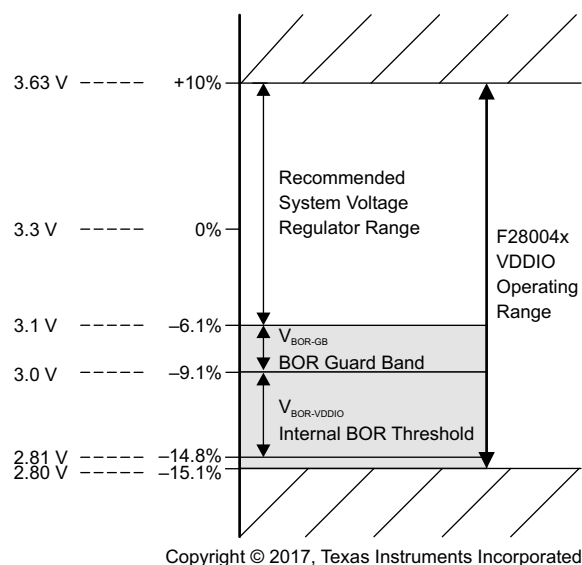

图 7-1. Supply Voltages
- (1) Operation above T_J = 105°C for extended duration will reduce the lifetime of the device. See Calculating Useful Lifetimes of Embedded Processors for more information.
- (2) The VDDIO BOR voltage (V_{BOR-VDDIO}(MAX)) in Electrical Characteristics determines the lower voltage bound for device operation. TI recommends that system designers budget an additional guard band (V_{BOR-GB}) as shown in Figure 7-1.
- (3) Internal BOR is enabled by default.
- (4) Supply ramp rate faster than this can trigger the on-chip ESD protection.
- (5) TI recommends V_{BOR-GB} to avoid BOR resets due to normal supply noise or load-transient events on the 3.3-V VDDIO system regulator. Good system regulator design and decoupling capacitance (following the system regulator specifications) are important to prevent activation of the BOR during normal device operation. The value of V_{BOR-GB} is a system-level design consideration; the voltage listed here is typical for many applications.